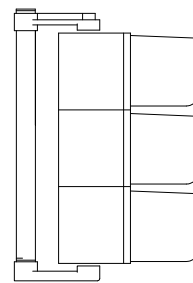

Figure 5
5. Finished assembly is now ready for installation on Clamp Kit. (Figure 5).